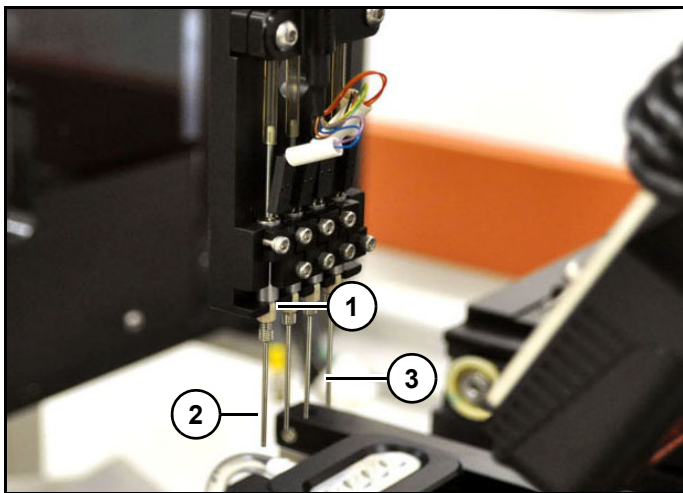

Figure 22
The plastic valve nut (1) (*Figure 22*) that holds tip is very delicate. Use caution when engaging or disengaging torque wrench to avoid damage.
When removing tips, always start with front tip (2) (*Figure 22*) to avoid damaging tips.
When installing new tips, always start with back tip (3) (*Figure 22*) to avoid damaging tips.
1. Gently loosen tip 4 (2) (*Figure 22*) by hand, turning counter-clockwise. If tip is screwed in too